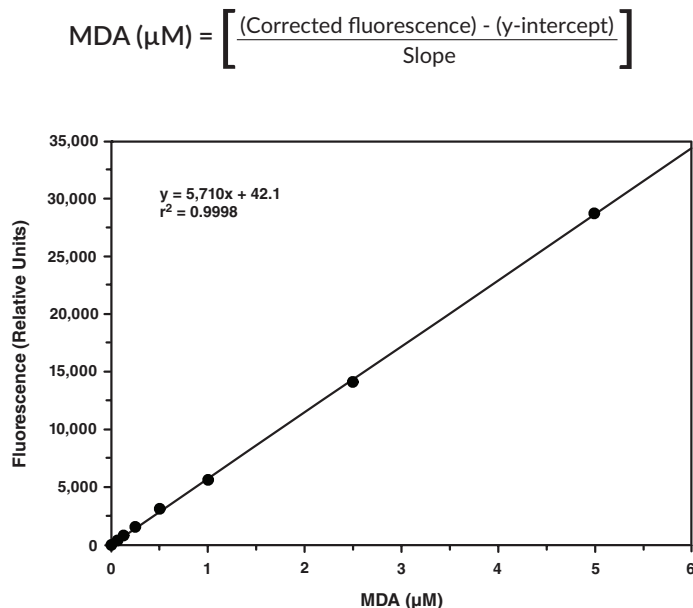

Figure 4. MDA fluorometric standard curve
4. Calculate the values of MDA for each sample from the standard curve. An example of the MDA standard curve is shown below in Figure 4.